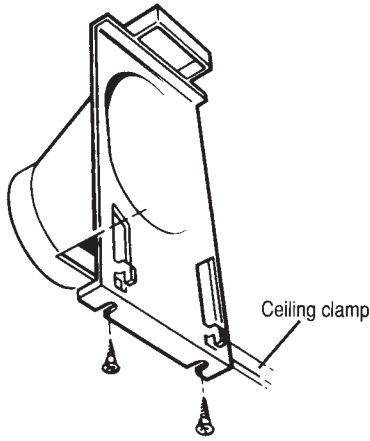

Fig.1
- ◆ Assemble the captive nuts supplied onto the ceiling clamp (Fig.1).